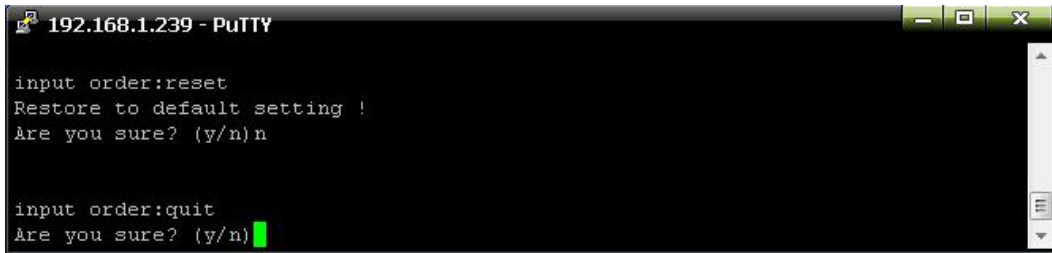

Figure 2-12
2.3.9: QUIT command to quit the telnet client as shown in figure 2-12